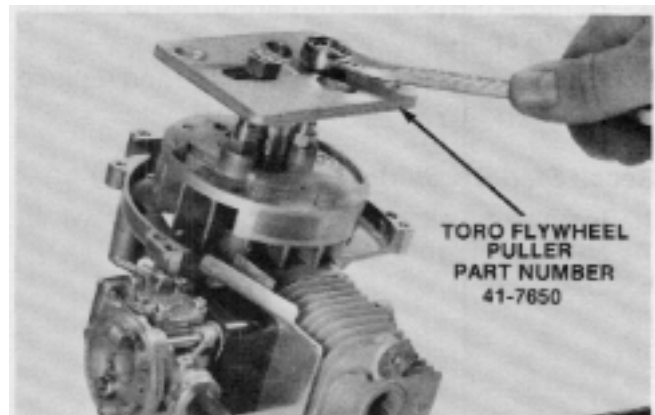

Figure 72
5. Remove the flywheel using Toro flywheel puller part number 41-7650. See Fig. 72.